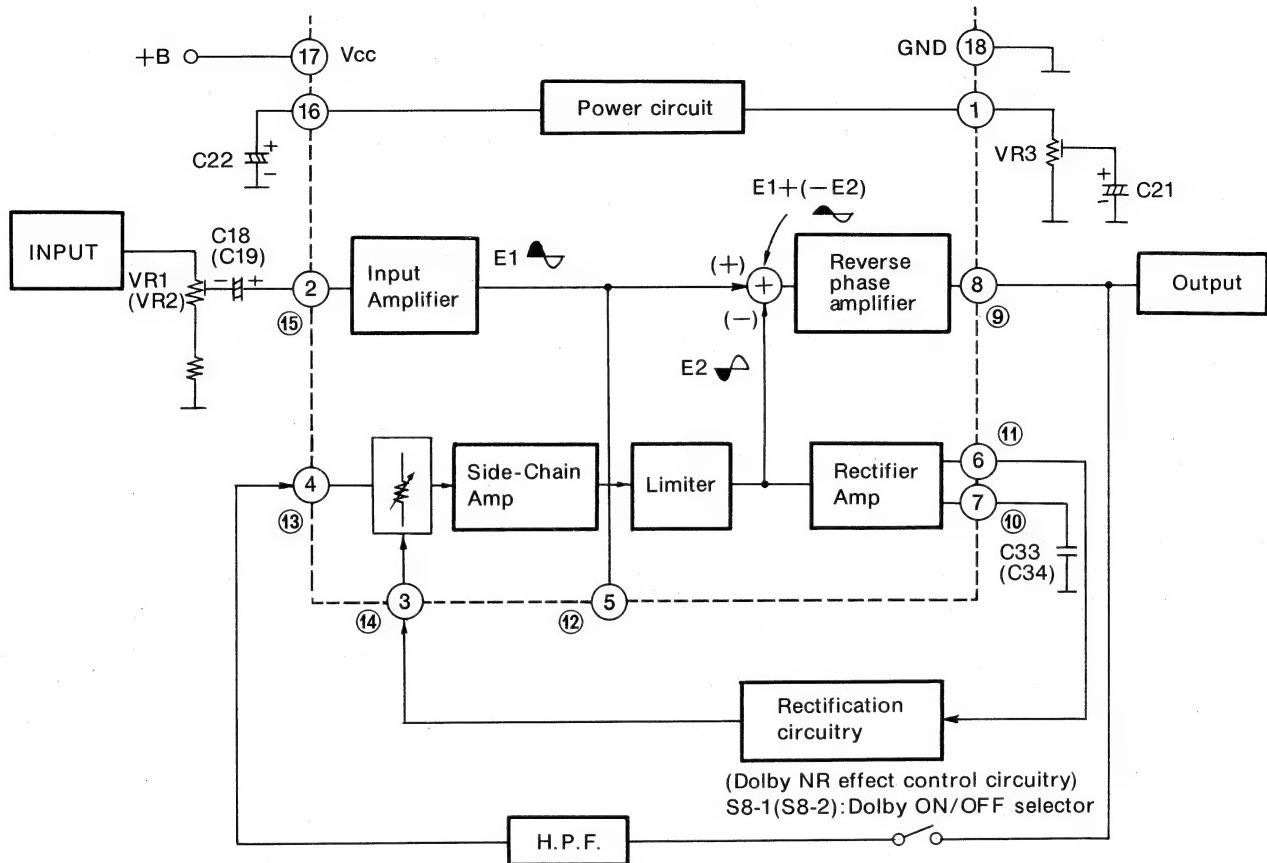

Fig. 35 Block Diagram-IC₃ RVIHA11226 (Cassette Deck)
6. When Q9 (Q10) is ON, the electrolytic condenser is connected in parallel with C207 (C208), and this becomes the circuit shown in Fig. 35 B).